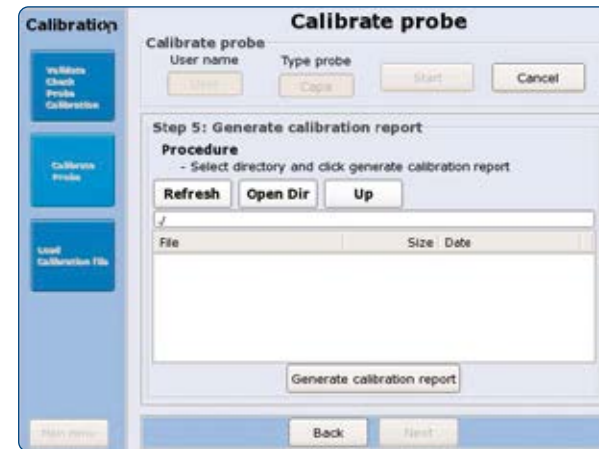

Figure 57: Generation of a Calibration Report.
16. Choose the directory, where the Calibration Report should be stored and press Generate Calibration Report (Figure 57). The valid calibration is automatically saved in the memory of the Pre-amplifier.
8. Choose the directory, where the Calibration Report should be stored and press Generate Calibration Report (Figure 57). The valid calibration is automatically saved in the memory of the Pre-amplifier.